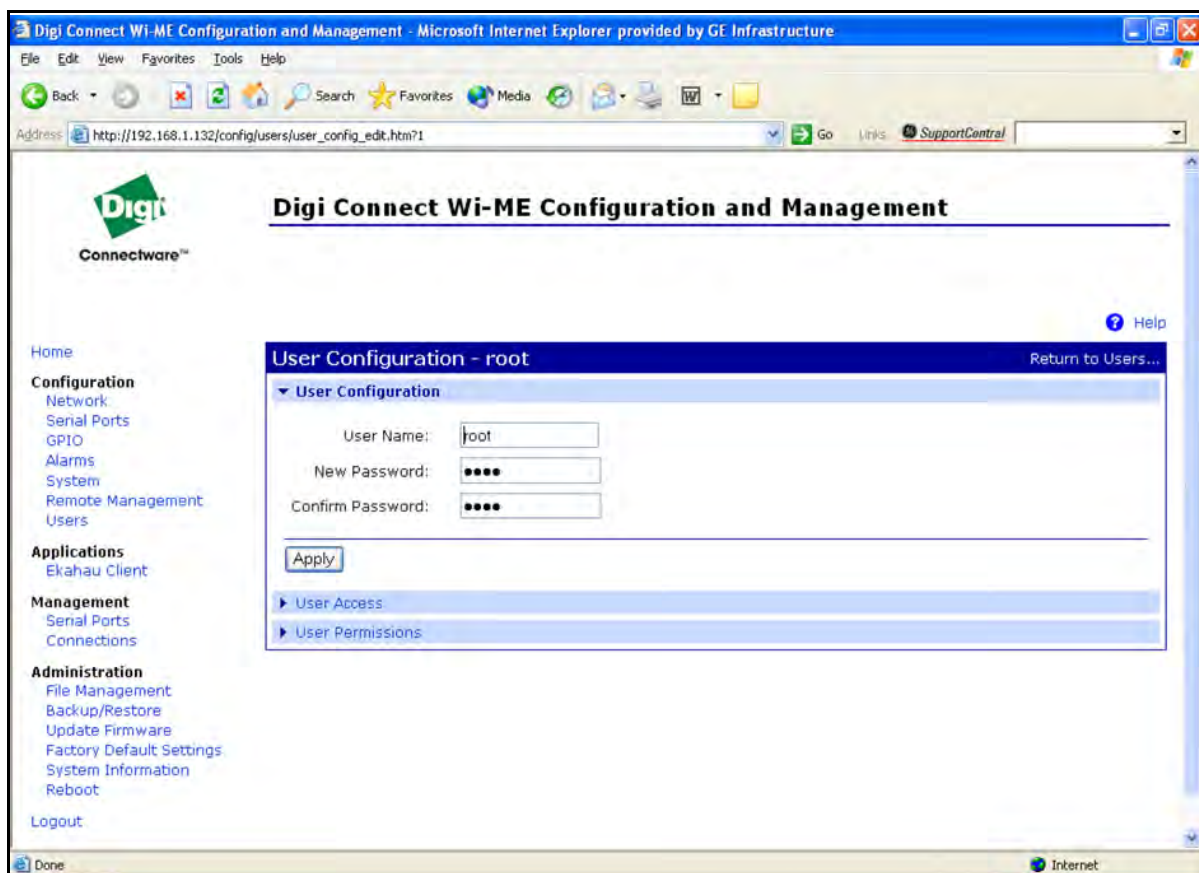

Figure 35: Changing the User Name and/or Password
5. Click on **New...** Figure 35 on page 54 appears.